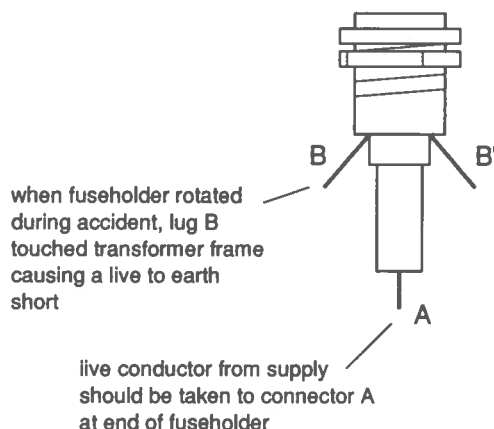

Fig. 1 Fuseholder
A technician early this year got a nasty shock from a Type 59R Labpack he had been renovating. The accident occurred when he was trying to remove the cap securing the mains fuse. Because the fuseholder of circular cross-section was insecure, the entire fuseholder rotated, causing a side terminal at live potential to touch the frame of the isolating transformer (Fig. 1). This caused the enclosure to become hazardous live. Had the rest of the electrical system been in good order, a fuse should have blown almost instantly to render the apparatus dead. Unfortunately there were several other fault conditions:
- The supply live had been wrongly taken to a side connector rather than to the base connector on the fuseholder (Fig. 1). This isolated the 2 A instrumentation fuse. Had that fuse been in the fault circuit, it would have provided better protection than the fuse in the 13 A plug.
1. The supply live must be wired to the connector on the base of a fuseholder (Fig. 1) and not to a side connector. This ensures that the outer fuseholder collar is dead when the fuse is removed. It helps to prevent a person inserting or removing a fuse from getting an electric shock when the apparatus is connected to the supply.